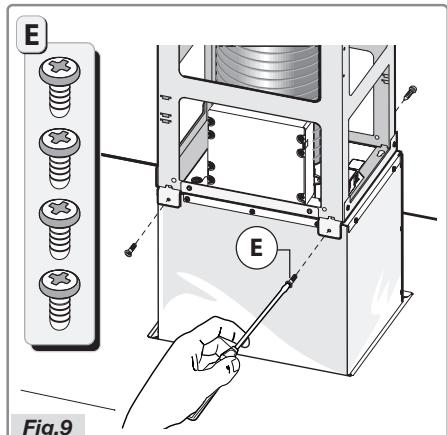

Fig.9
- Fix the construction **C** to the motor housing using the 4 screws **E** (Fig.9).